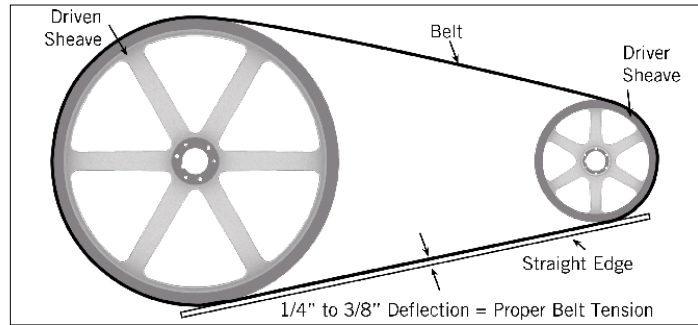
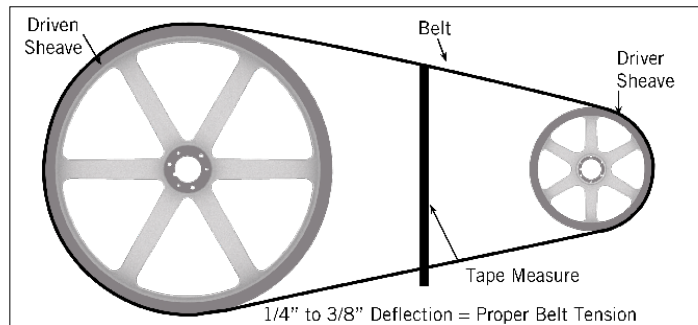

Figure 3a. Belt Tension with a Straight Edge
Figure 3b. Belt Tension with a Tape Measure
- Place a straight edge along the belt from sheave to sheave as shown in **Figure 3a**, or use a tape measure as shown in **Figure 3b** to measure belt deflection.
- There is adequate belt tension if the belt deflects between 1/4” and 3/8” as shown in **Figures 3a** and **3b**.